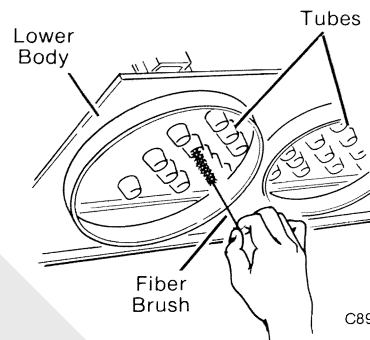

Figure 3 Cleaning Tubes
7. When equipped, clean the tubes with a stiff fiber brush (see Figure 3). If heavy plugging is evident, remove the lower body and clean it with compressed air and water not exceeding 160° F.